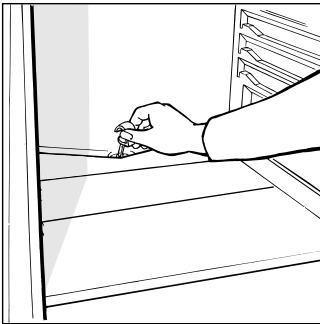

Fig. 2
This appliance defrosts automatically and the defrost water is channelled to the back toward the drain installed for this purpose (fig. 2). Here, the heat produced by the compressor will make it evaporate. The only thing you must do is to periodically check and clean the drain hole, which is located behind the fruit and vegetable crisper, so that the water drains properly.
- The defrost drain is clear from any blockage (see fig.2).